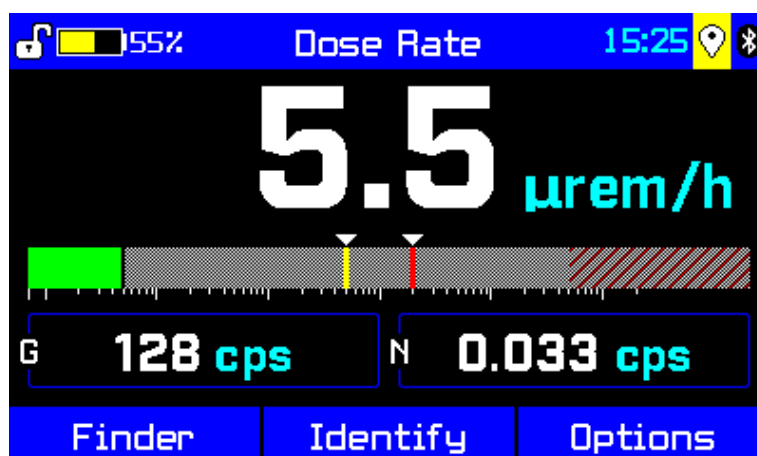

Figure 3-1: identiFINDER R425 home screen, Dose Rate mode
3. Wait for the identiFINDER R425 to complete its startup and software initialization processes. A series of screens will display. When the Dose Rate screen (Figure 3-1) appears on the display, the device is ready for operation.
Dose Rate mode is the basic operation mode of the R425. See 4.1 on page 55 for a detailed description. Once the identiFINDER R425 is booted, it will default to the Dose Rate screen (Figure 3-1).